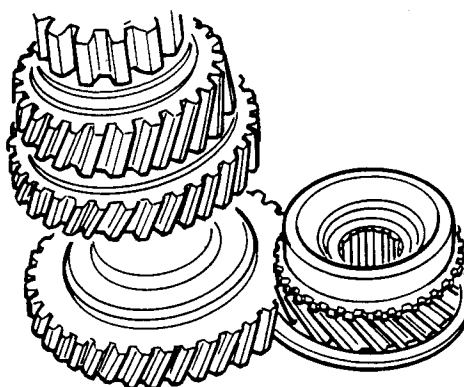

Fig H1.158
- (1) Refer to Fig H1.158. With the layshaft in mesh with the primary shaft and supported by the front bearing, fit the roller bearing which serves as a support and centraliser to the mainshaft.